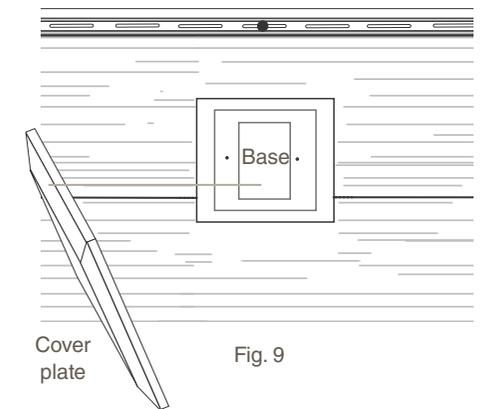

Fig. 9
- Celect Fixture Mounts are available for obstructions such as lighting, dryer vents, water faucets, etc. Begin by installing the base "ring." Install the siding panels allowing for the appropriate expansion gap depending upon the length of the siding course. Center and secure the face plate with two Celect Cortex® Trim Screws and Plugs (Fig. 9).